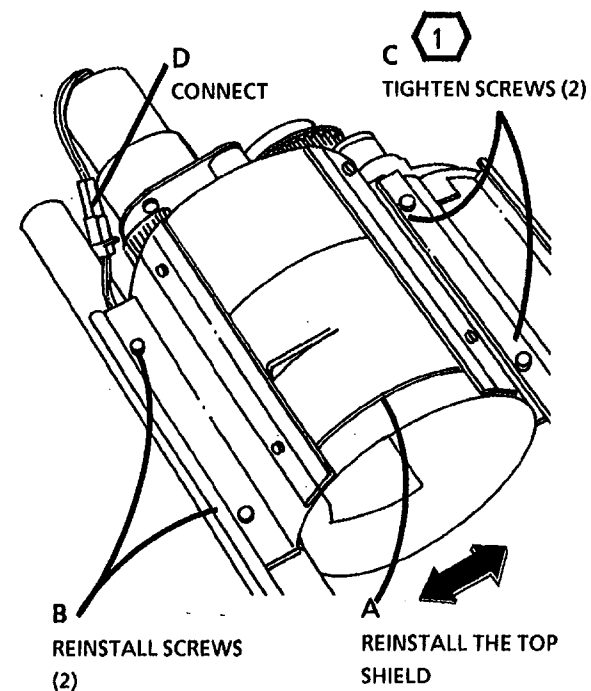

Figure 3. Reinstall the Top Shield
2. (Figure 3): Reinstall the Top Shield.